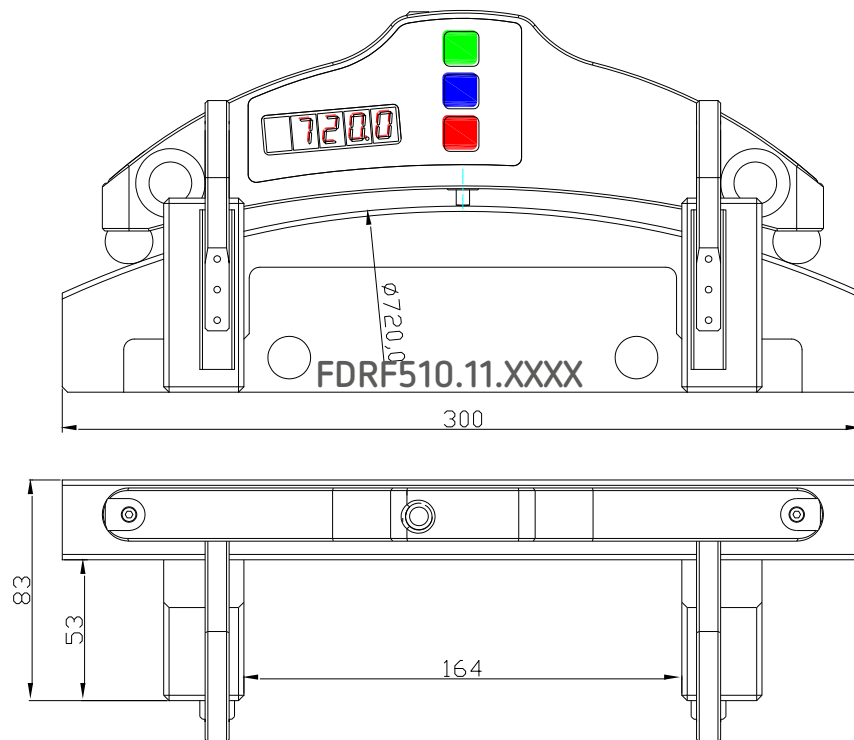

Figure 3
- reference wheel of the known diameter (or Reference wheel block FDRF510.11.XXXX, figure 3)